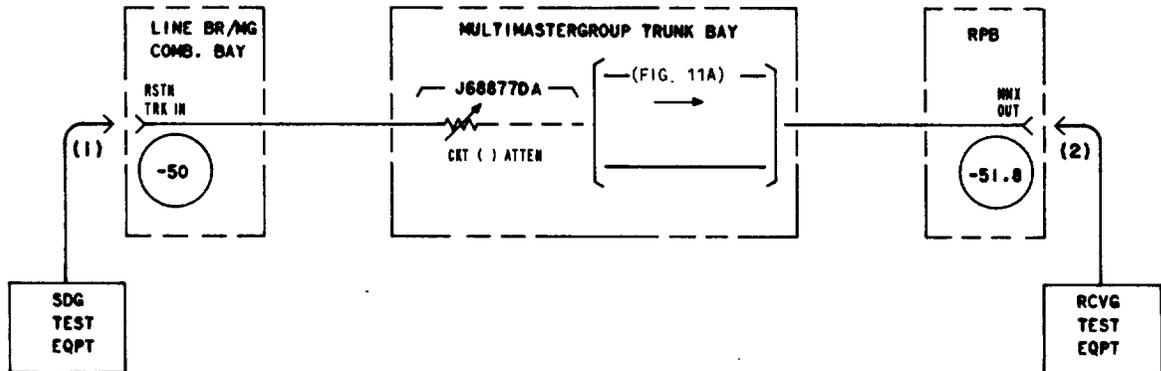

Fig. 7—Transmitting Restoration Trunk for Mastergroup Branching
3	Connect the STE to the RSTN TRK IN jack in the line branching/mastergroup combining bay [patch (1), Fig. 7].
4	Connect the RTE to the appropriate MMX OUT jack in the restoration patch bay [patch (2), Fig. 7].
Note 1: A zero-loss trunk (Fig. 9A) may be used in conjunction with this trunk. In this case, the zero-loss trunk should be tested as prescribed in Chart 9A. The zero-loss trunk is indicated in Fig. 7 by the designation Fig. 9A.